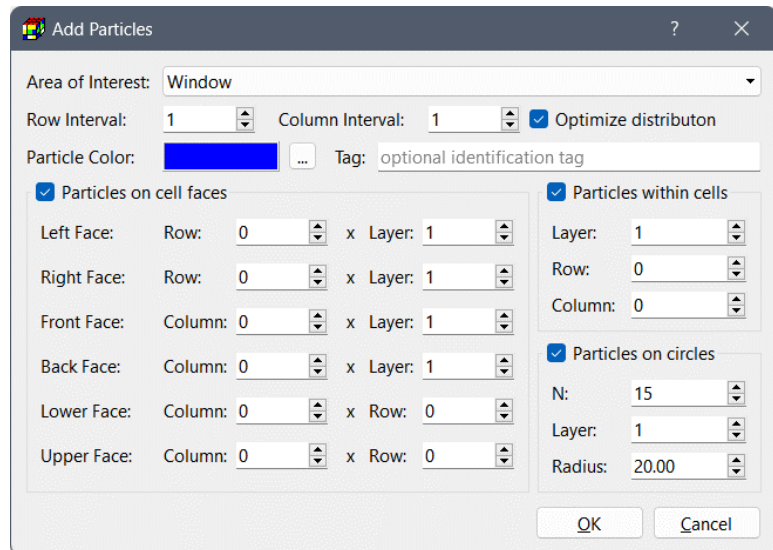

Figure 171. The Add Particles dialog box
- Ctrl+drag a window covering the region where particles should be placed, then release the mouse button to open the Add Particles dialog box (Figure 171). Use the dialog box to add particles. The features of the dialog box are as follows.